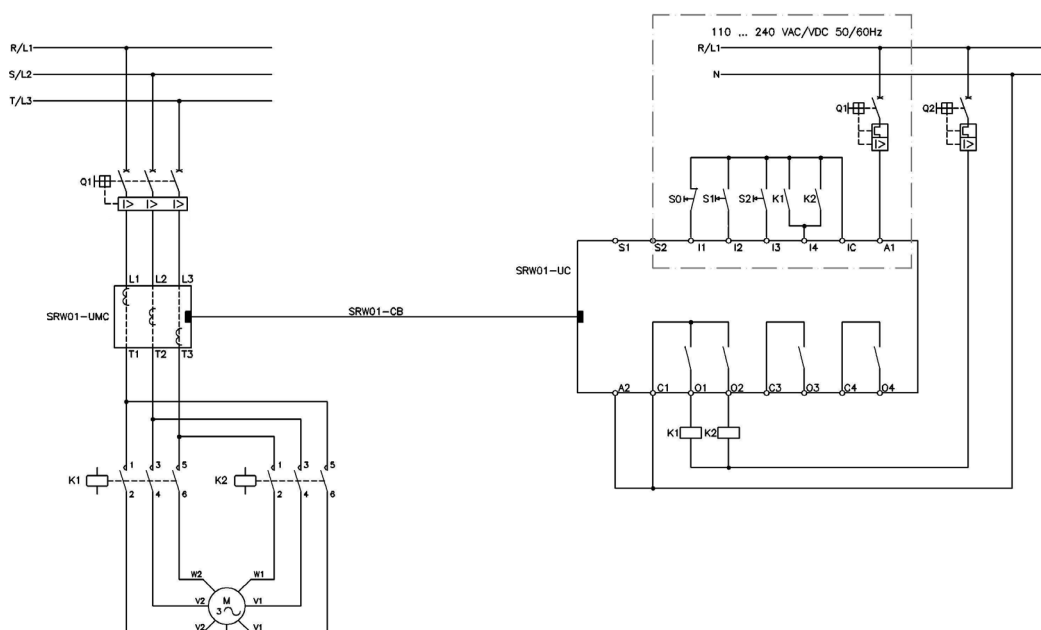

Figure 5.18 - Connection scheme for the Two Windings Starting Operation Mode using digital inputs at 24 Vdc and driven by pushbuttons (P230=1)
The connection scheme on figure 5.18 shows an example of the use of the Control Unit (UC) on the Two Winding Starting operation mode with drive through digital inputs (P229 or P232 = 0) at 24 Vdc using three wires (pushbuttons) control logic (P230 = 1).